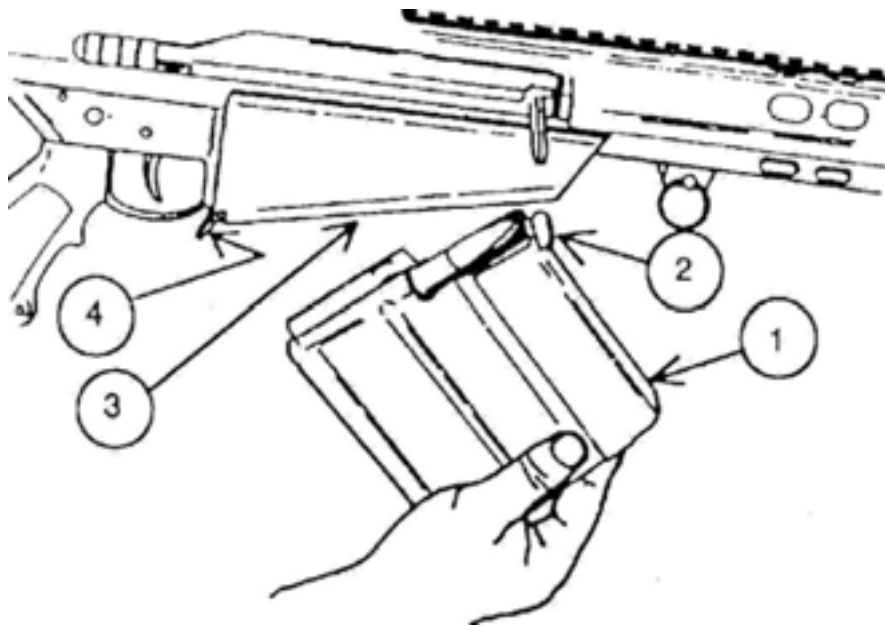

Figure 2-12. Inserting Magazine
3. Insert the magazine into the magazine well in the lower receiver, with magazine (1), Figure 2-12, tilted (bullet tips upward). Insert the front of the magazine hook (2) to its hinge, located in the front of the magazine well (3). Then swing the rear of the magazine up until it locks into place by means of the rear catch (4). It should lock in with an audible click. Be aware that it is possible to insert the hook on the front of the magazine in the wrong space. Pull sharply on the magazine to ensure it is properly seated.